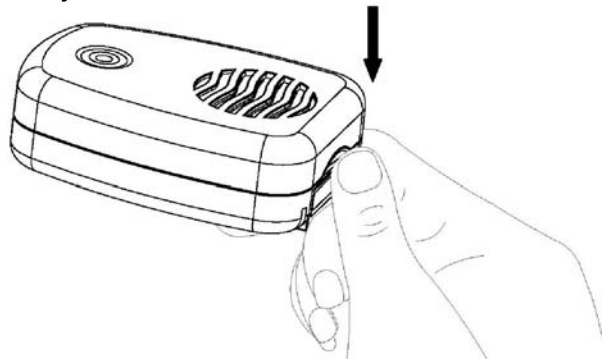

Figure 1
1. Remove the battery door on the back of the sensor, as shown in **Figure 1** .